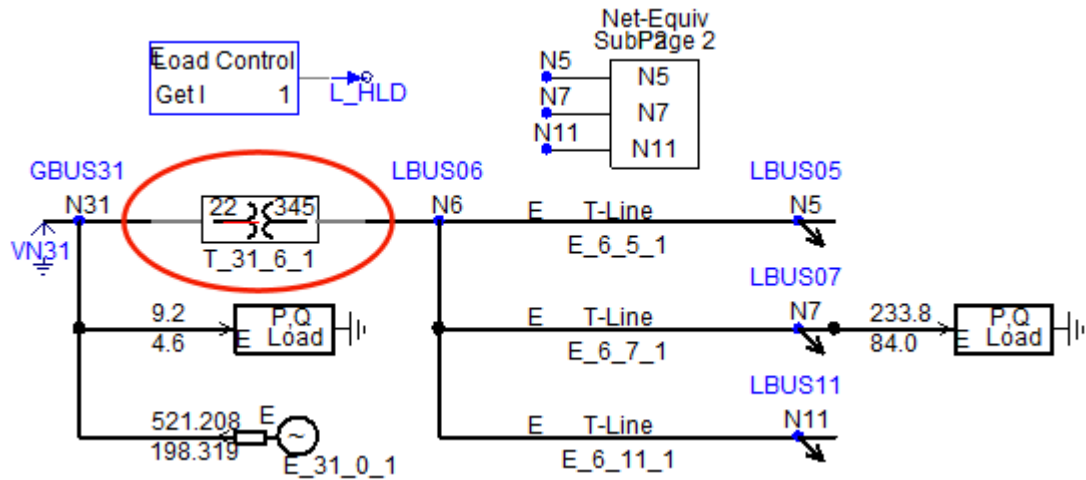

Figure 5.5 A detailed transformer model substituted in the IEEE 39bus system.
4. Run E-TRAN with the substitution library in the translation. To learn how to include the substitution library in a translation refer to section 4.1.6. In Figure 5.5 the IEEE 39bus system is shown after E-TRAN has taken the simple RXB data transformer and substituted the detailed transformer model that was developed in this example.
3. Run E-TRAN with the substitution library in the translation. To learn how to include the substitution library in a translation refer to section 4.1.6. In Figure 5.5 the IEEE 39bus system is shown after E-TRAN has taken the simple RXB data transmission line and substituted the detailed transmission line model that was created in this example.
4. Run E-TRAN with the substitution library in the translation. To learn how to include the substitution library in a translation refer to section 4.1.6. In Figure 5.5 the IEEE 39bus system is shown after E-TRAN has taken the simple RXB data generator and substituted the detailed generator model that was developed in this example.